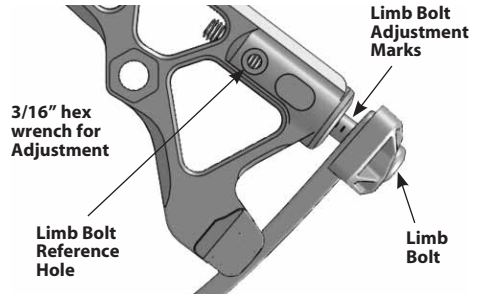

Figure 2. InfinityDraw Weight Adjustment
tive of approximately 8.6% of the bows original peak weight. Every bow configuration as seen in **Table 1** has a slightly different result so therefore please consult your maximum and minimum draw weights available for each. This new feature is also a useful tool in keeping the limb bolts equal on both the top and bottom of your bow when you are adjusting draw weight. As a safety precaution, the limb bolts should never be backed out beyond the limb bolt reference hole on the riser while the bow is being shot. **Please reference Figure 2.**
1. Before adjusting limb bolts, note setting on limb bolt adjustment marks for future reference. **(See Figure 2).**